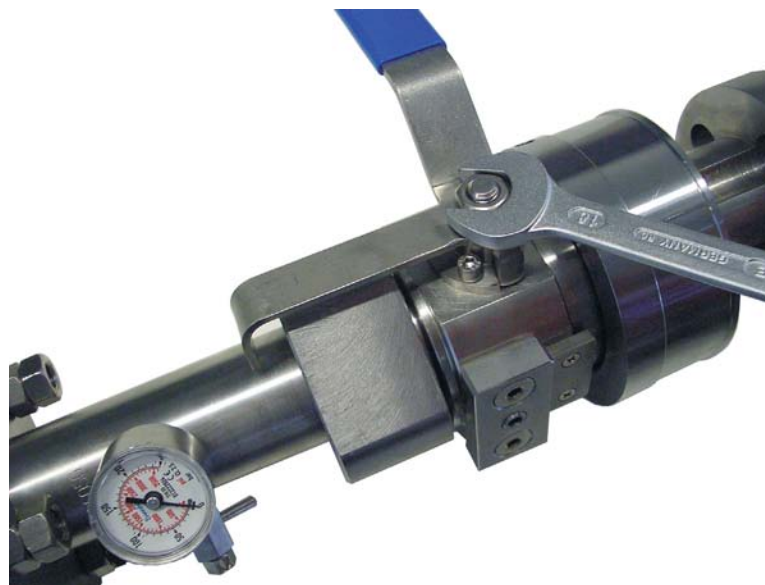

Fig. 3.11: Dismounting the lever (4.1) from the ball valve (4)
- Possible problem 3: Ball valve (4) is defective.
- Insert the transducer assembly (1) as described in Section 3.3.
- Dismantle the extraction tool and send the ball valve (4) for check to SICK .
For safety reasons, the spindle assembly (5) must only be dismantled after removing the lever (4.1) from the ball valve assembly (4) (see **Fig. 3.11**). This aims to avoid unintentional opening of the ball valve (4) while the spindle assembly (5) is dismantled.